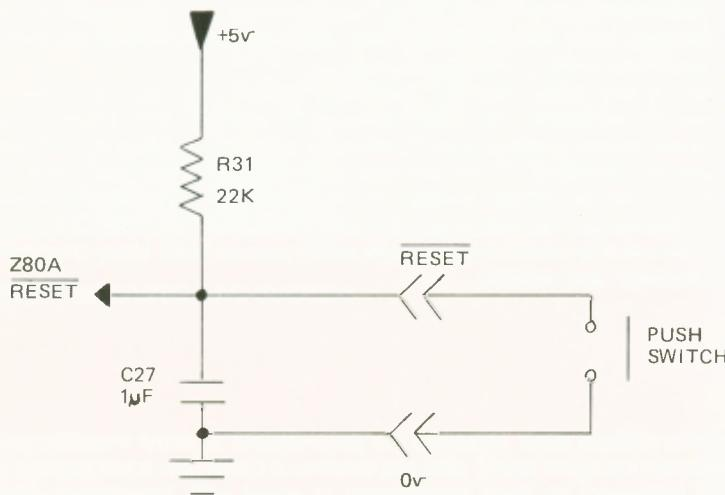

FIG 10b – RESET SWITCH ADDITION
**20B RESET** connected to the Z80A reset pin. This line is provided with a simple RC delay, at power on, to allow the whole computer to reach an operational state before the CPU tries to do anything. A simple **RESET** button can be connected between this pin and 0 volts (see fig 10b). When this switch is operated the CPU will reset in the same way as at power on. The difference is that you do not have to disconnect the power supply and then reconnect it. A **RESET** switch would be extremely useful to anyone who replaces the BASIC ROM with a machine code monitor, because memory would not then be erased whenever a reset had to be performed.
The circuit is illustrated in fig 10b. You simply connect a push button between RESET and 0v on the edge connector. When you press the button the RESET line is pulled down to 0v to reset the Z80A. Upon releasing the button, C27 charges via R31 until the voltage reaches logic 1 level. The Z80A then starts to run the machine code program starting from address 0 (usually in the Sinclair ROM). Using this button simulates a "power on reset" and consequently programs which were in the memory are deleted.